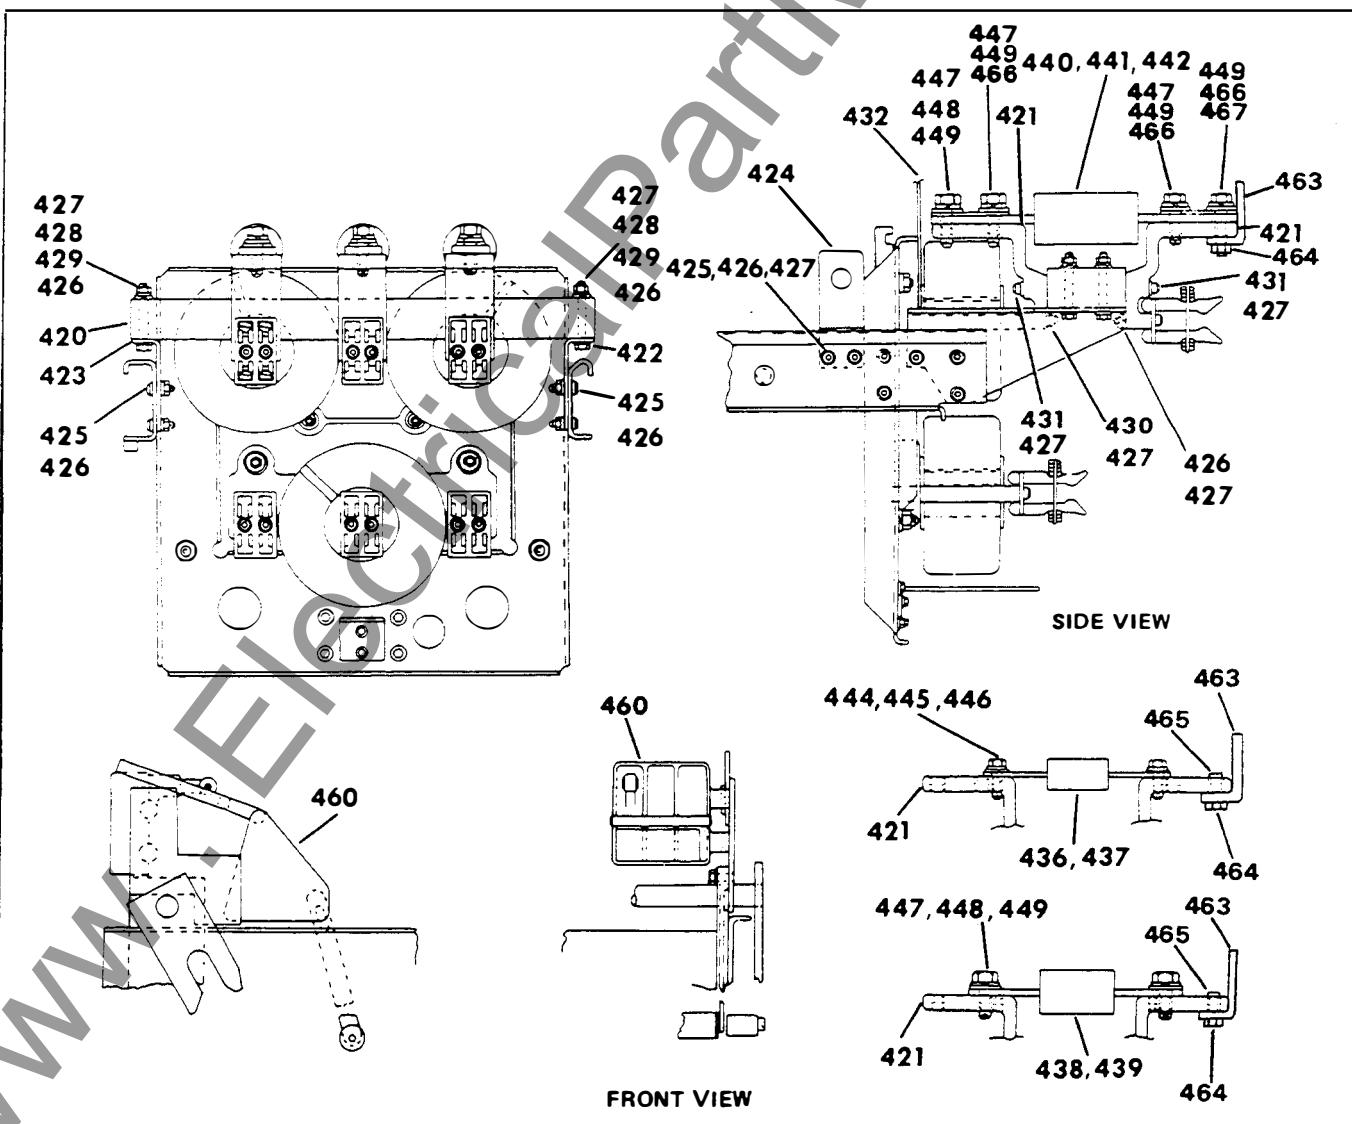

Figure 9. Fuse Attachment Group LAF-600B, LAF-800A Breakers
With the circuit breaker contacts open and the stored-energy springs discharged, the main contact fingers (9) may be removed by loosening screws (18) enough to relieve the compression on springs (10). There are two springs behind each finger. It is important that they be positioned properly upon reinstallation. If difficulty is experienced in correctly positioning these springs, the upper and lower primary disconnects (Figure 1, Item 123), may be removed from each phase and the circuit breaker inverted to rest on the ends of connectors (4) and (11). After the contact fingers are replaced, connector (4) should be positioned in the center of the slot in the molded base to assure correct alignment of the primary disconnect fingers. (See Figure 9.)
Be sure to replace barrier. Item 463, Figure 9 and 10 before installing in cubicle. Failure to do so could result in property damage, electrical shock, burns, personal injury or possible death.